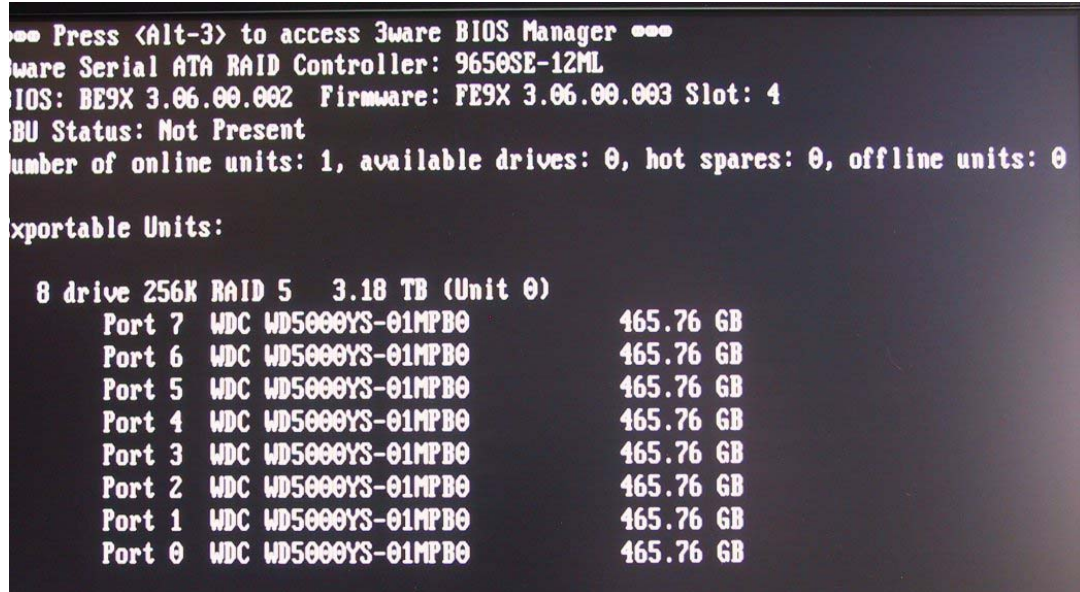

Figure 5-19
- 2) In the case of a normal boot-up sequence in which the external MaxPac 3 RAID array is seen by the main system, the 3ware BIOS will report the presence of the external array, which – in this example – comprises 8 drives, as illustrated in Figure 5-19.